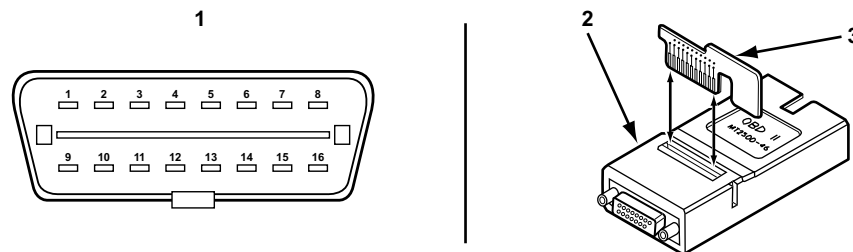

Figure 15-14 OBD-II adapter and Personality Key™
- “Connections Using the OBD-II Adapter” on page 150 (Figure 15-14)